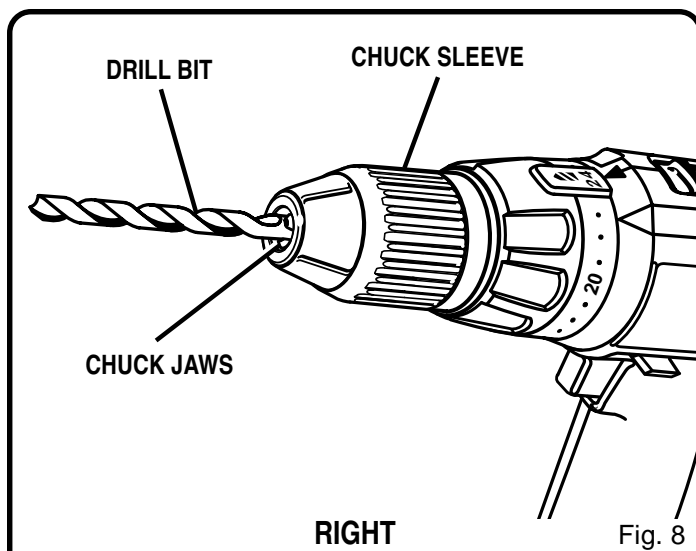

Fig. 8
- Insert your drill bit into the chuck the full length of the jaws. *See Figure 8.*
See Figure 8.